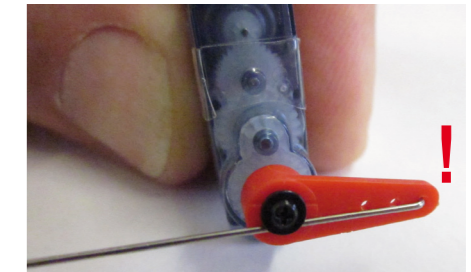

fig. 11
- c) Please fix the servo-lever and the wire with the flange-head screw (fig. 11 / example shows assembly position "right").